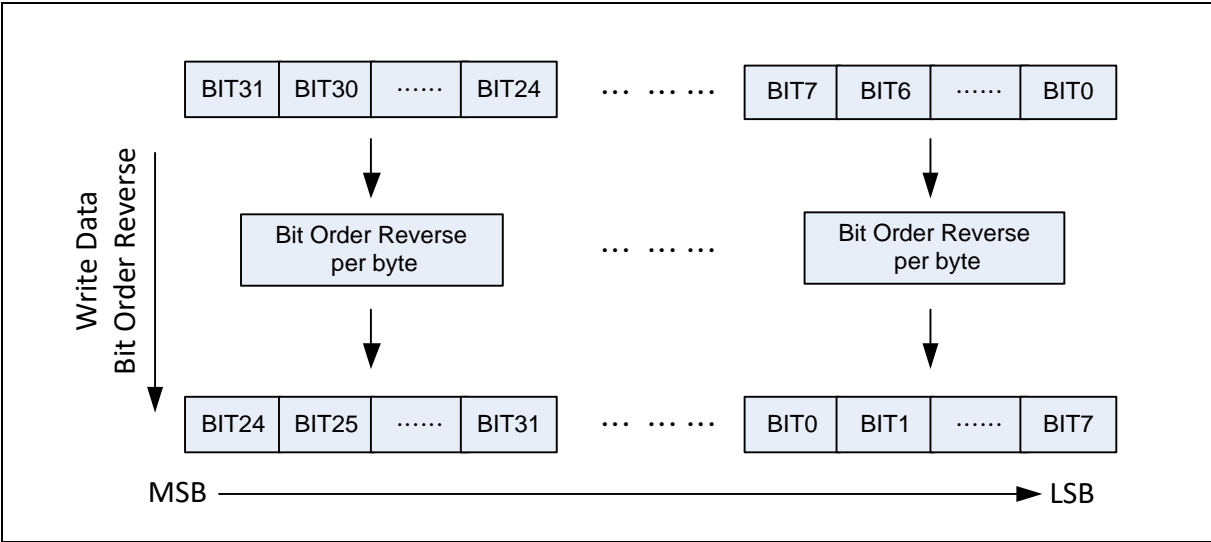

Figure 6.26-3 Write Data Bit Order Reverse Functional Block
- 4) Configure bit order reverse for CRC write data per byte by setting DATREV (CRC\_CTL[24] Write Data Bit Order Reverse). The functional block is also shown in Figure 6.26-3.